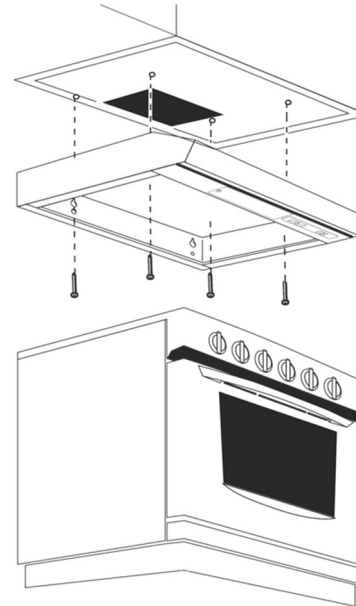

Figure 3
2. Place the hood inside the cabinet (Fig. 3). Make sure that the ventilation slats are not blocked.
3. Bolt the hood to the cabinet with the wooden screws (supplied) (Fig. 3).